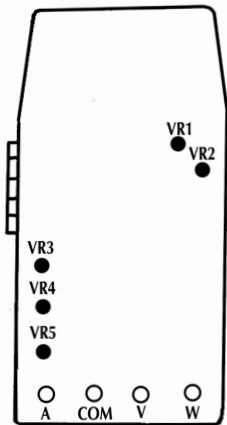

Fig 1
2. Adjust VR3 until the display shows a value of “0” (See Fig 1)